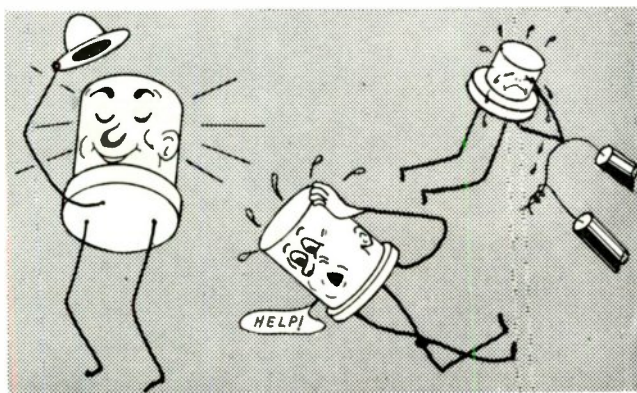

Fig. 121. Make sure transistor leads don't touch each other or exposed wires of other components.
7. Transistor leads are usually not insulated. Make sure the exposed transistor leads do not touch or short to each other or to other components (Fig. 121).